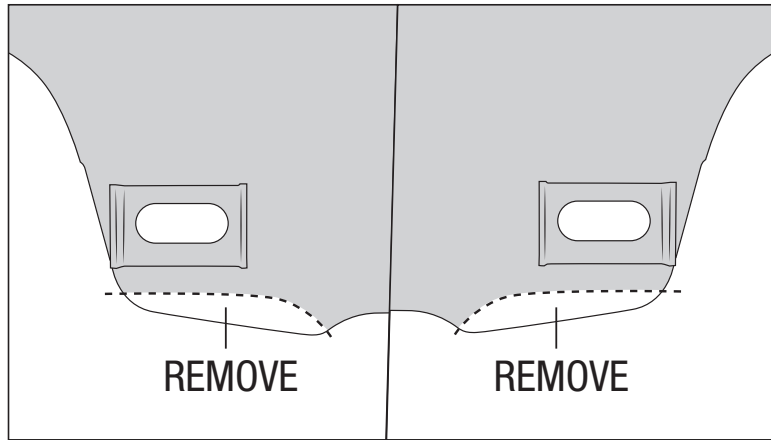

Figure 4
- C. Bottom of LCA brackets to clear relocated LCAs (fig. 4).